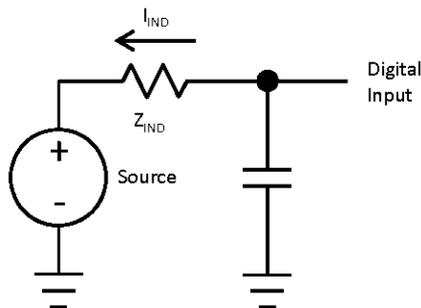

Figure 2. 5 V Tolerant Input IIND Parameter
5. Examples calculated using V_{IL} relation, V_{DD}, and max I_{IND}: Z_{IND}=V_{IL}/I_{IND}. This is the impedance needed to pull a high signal to a level below V_{IL} due to leakage when V_{IL} < V_{IN} < V_{DD}. These examples assume signal source low = 0 V. See Figure 2.